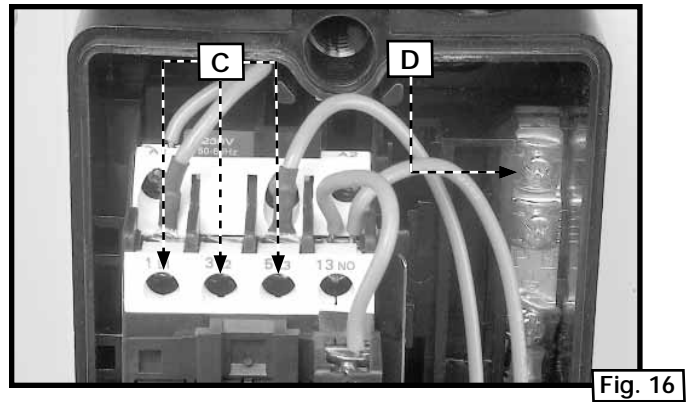

Fig. 16
3. Connect the three power lines to terminals (C) Fig. 16, and the green ground wire to ground screw (D).
4. After connecting the power cord to the machine, view the rotation of the blower fan to make certain that the rotation of the motor is in the proper direction. The fan should rotate clockwise. You can reverse the rotation of the motor by interchanging any two of the three incoming power lines connected to terminals (C) Fig. 16.